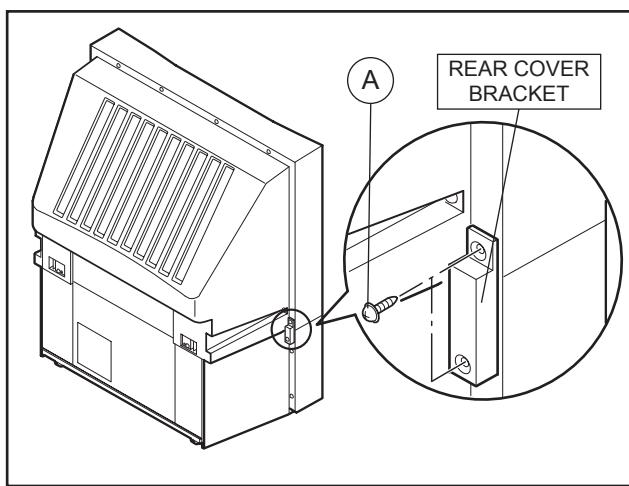

Fig.1
- (1) Remove the 2 screws [A] on the left rear side of the set, and then remove the rear cover bracket. [Fig.1]